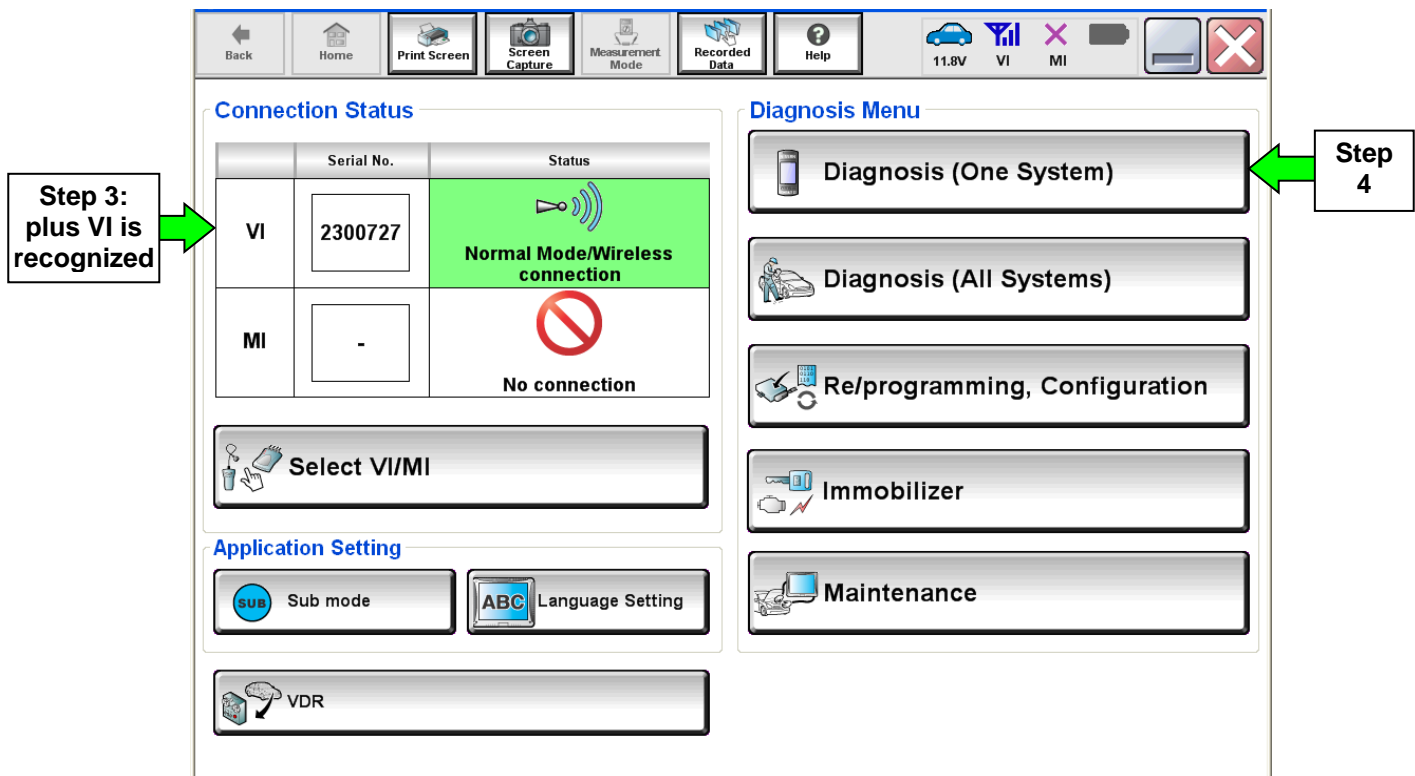

Figure 1A
1. Return to the C-III plus Home screen (see Figure 1A).